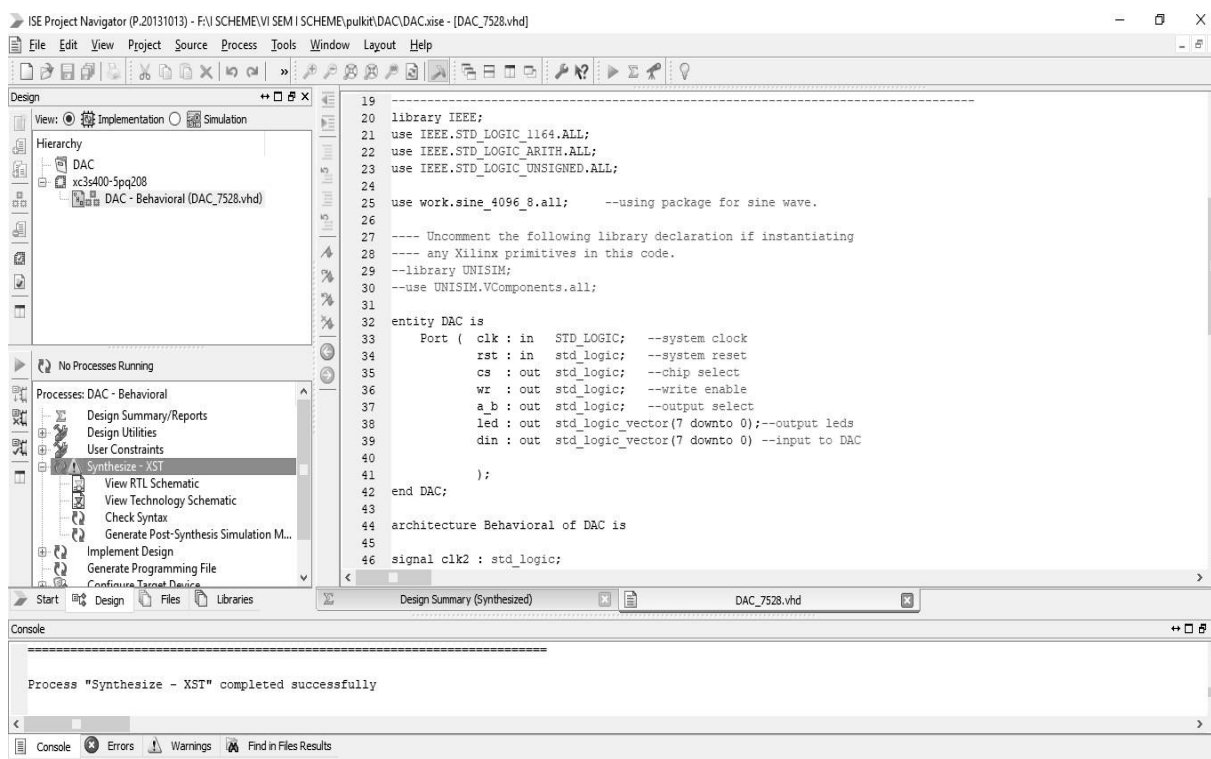

Fig. no. 15.3: .vhd file diagram
4. Develop VHDL code for given problem and Synthesize the .vhd file and view RTL schematic. Ref Fig no.15.3.